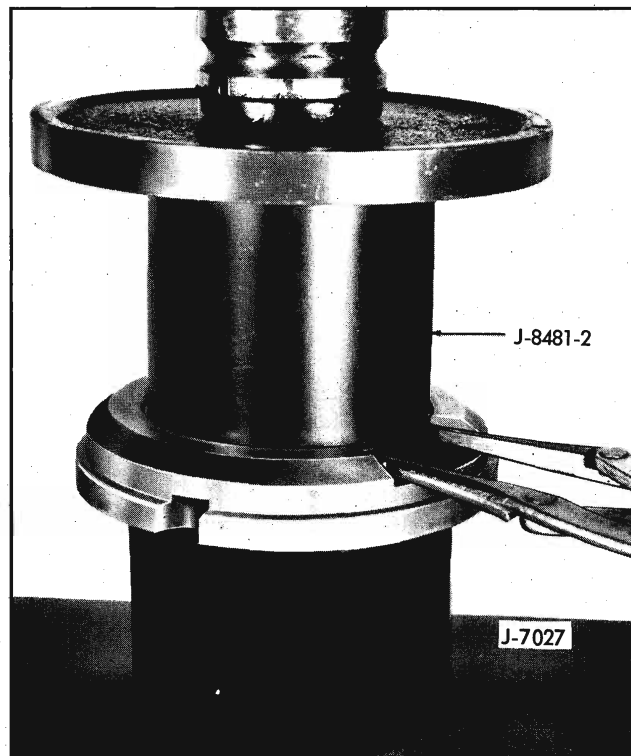

Fig. 7B-19 Removing Rear Bearing
2. Place the two springs in position (one on each side of the hub), so a tanged end of each spring falls into the same keyway in the hub (inset, Fig. 7B-17). Holding keys in position, align etched marks (Fig. 7B-17), in hub and sleeve, then slide hub into sleeve. *Be sure etched marks align after assembly.*